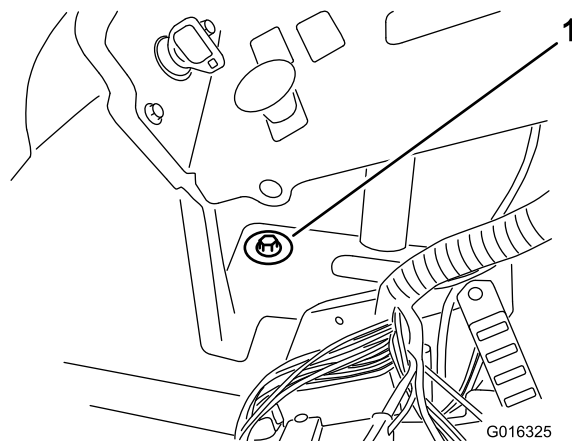
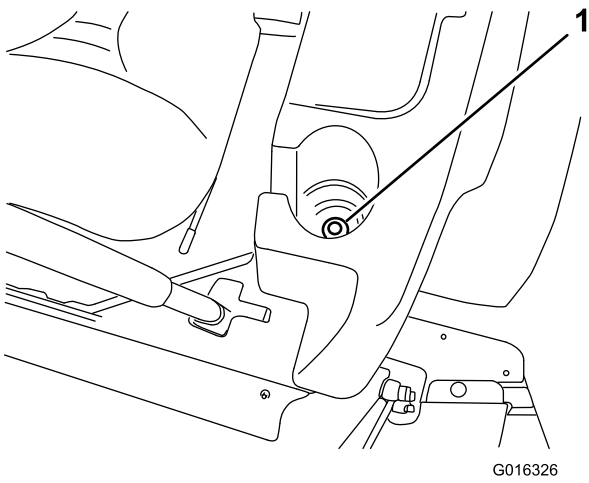
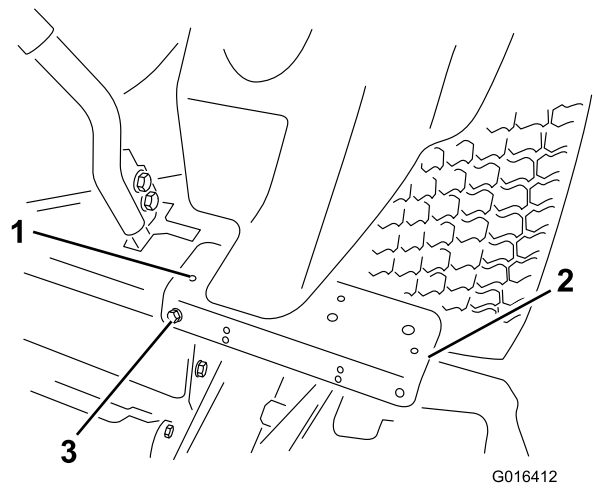
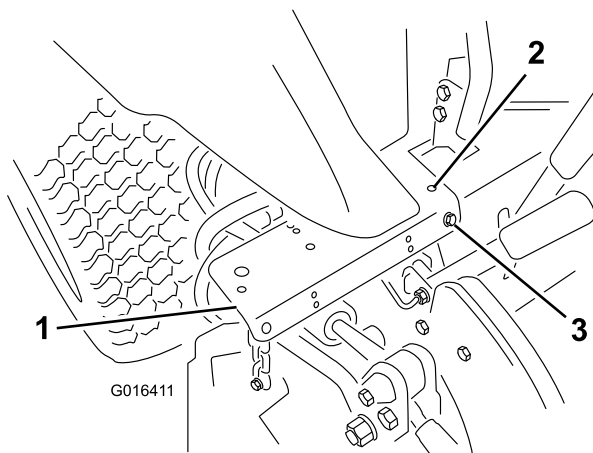

Figure 4
Figure 5
Figure 7
Figure 6
2. Loosen the 2 retaining bolts on the diesel tank (Figure 4 and Figure 5) just enough to slide the front light brackets between the platform and the tank (Figure 6 and Figure 7).
4. Drill a 5 mm hole in each of the boards in the position shown in Figure 6 and Figure 7.